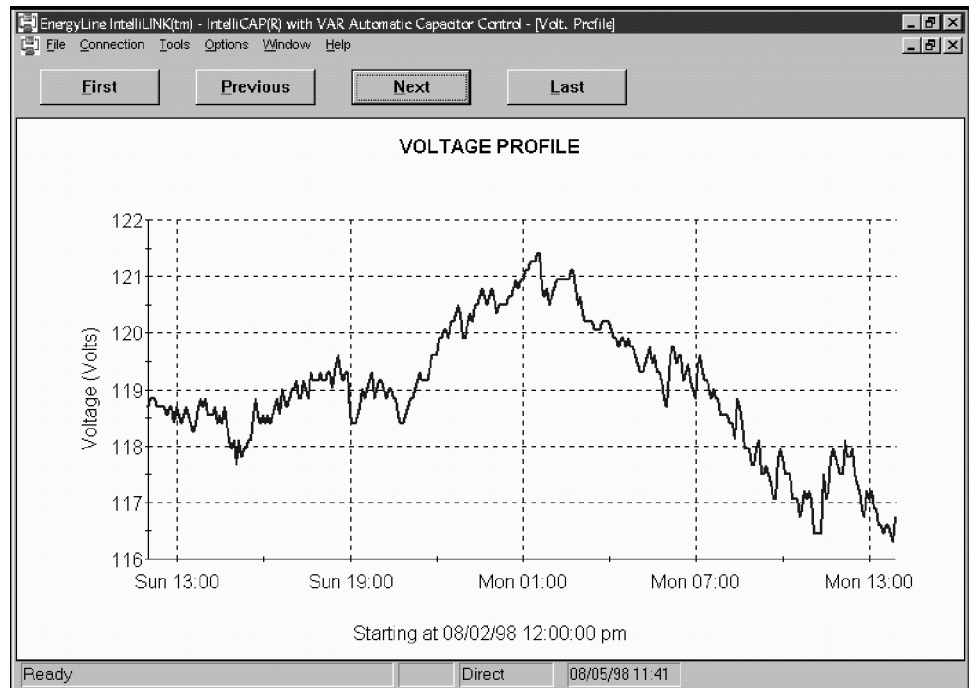

Figure 10. One of the *Data Graphing: Sensor Profile* screens.
- STEP 4.** If necessary, click the **First**, **Previous**, **Next**, or **Last** button to move to the correct day. See Figure 10 for an example.